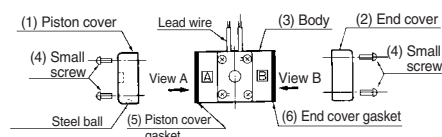
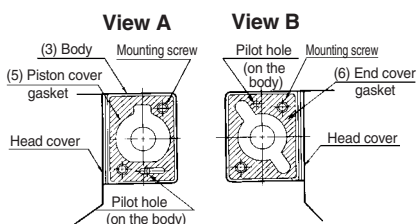

Fig. 1
Fig. 2
1. Loosen small screw (4) and remove piston cover (1) and end cover (2) from body (3). See Fig. 1. Leave piston cover gasket (5) and end cover gasket (6) attached to body (3). The installed position of the gasket at this time is shown in Fig. 2.